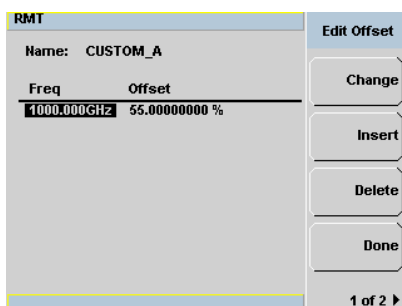

Figure 2-10 “Edit Offset” display with data added
- 2 Choose the table you want to edit using the  and  keys. Press **Edit Table** to display the **Edit Offset** screen as shown in Figure 2-10.